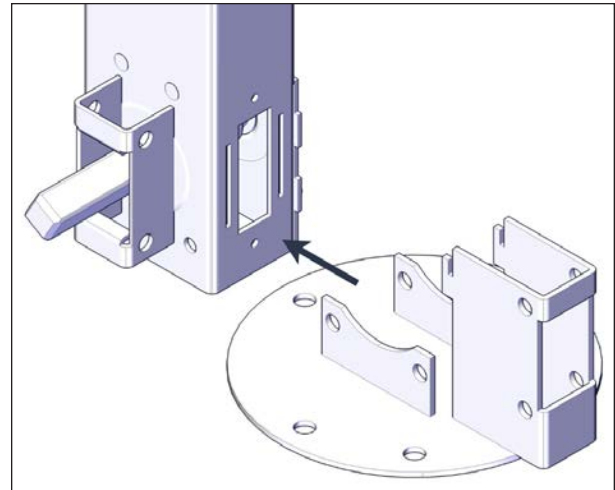
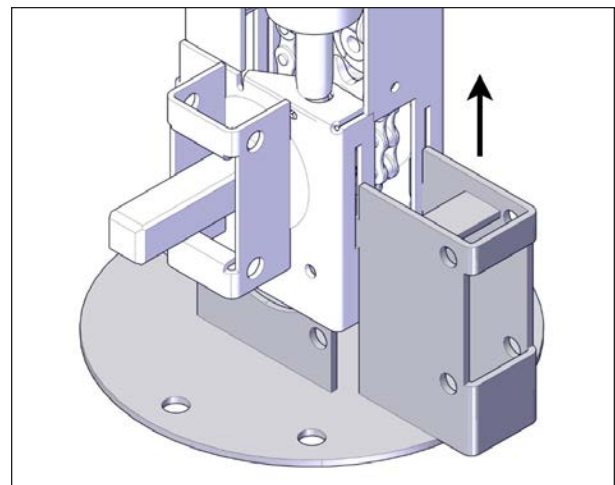

FIGURE 36: FOOT BRACKET INSTALLATION
FIGURE 37: INSERT LEGS IN SLOTS
2. Install a foot bracket to the non-motor side jack. Make sure to align the foot bracket on the right side of the U-frame shaft as shown see Figure 36.
3. Slide the alignment vertical legs of the foot in the bottom alignment slots of the jack see Figure 36 and Figure 37.
4. Push upwards to lock in place see Figure 37. Make sure to get a full contact with the bottom plate. Use a rubber mallet if necessary.